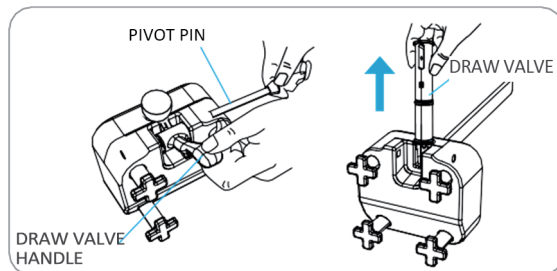

Figure 5-38
9. Draw valve handle and pivot pin should be taken out of freezing cylinder door to clean as shown in Figure 5-38.